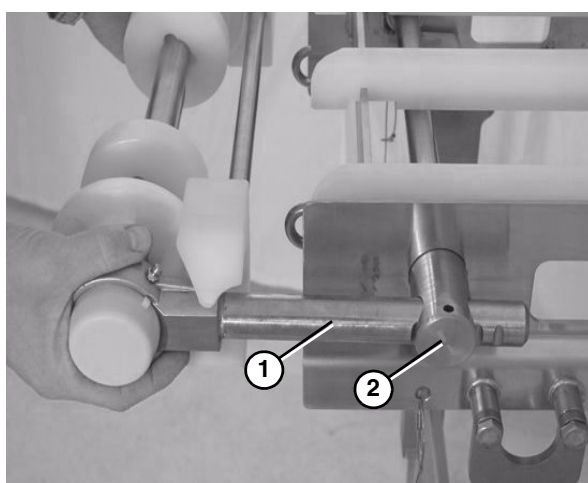

Figure 20
3. Slide the bearing shafts (**Figure 20, item 1**) into the holes in the tip up shaft (**Figure 20, item 2**).